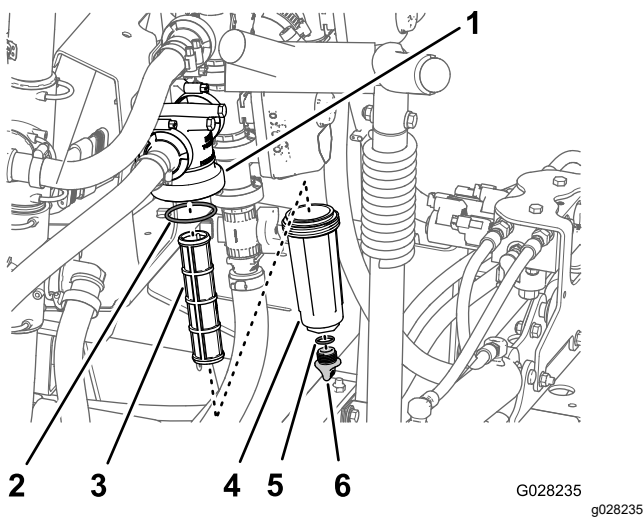

Figure 102
2. Align a drain pan under the pressure filter (Figure 102).
3. Rotate the drain plug counterclockwise and remove it from the bowl of the pressure filter (Figure 102).
4. Rotate the bowl counterclockwise and remove it from its filter head (Figure 102).
5. Remove the old pressure-filter element (Figure 102).
6. Check the O-ring for the drain plug (located inside the bowl) and the O-ring for the bowl (located inside the filter head) for damage and wear (Figure 102).
7. Install the new pressure-filter element into the filter head (Figure 102).
8. Install the bowl onto the filter head and tighten by hand (Figure 102).
9. Install the plug into the bowl and tighten by hand (Figure 102).